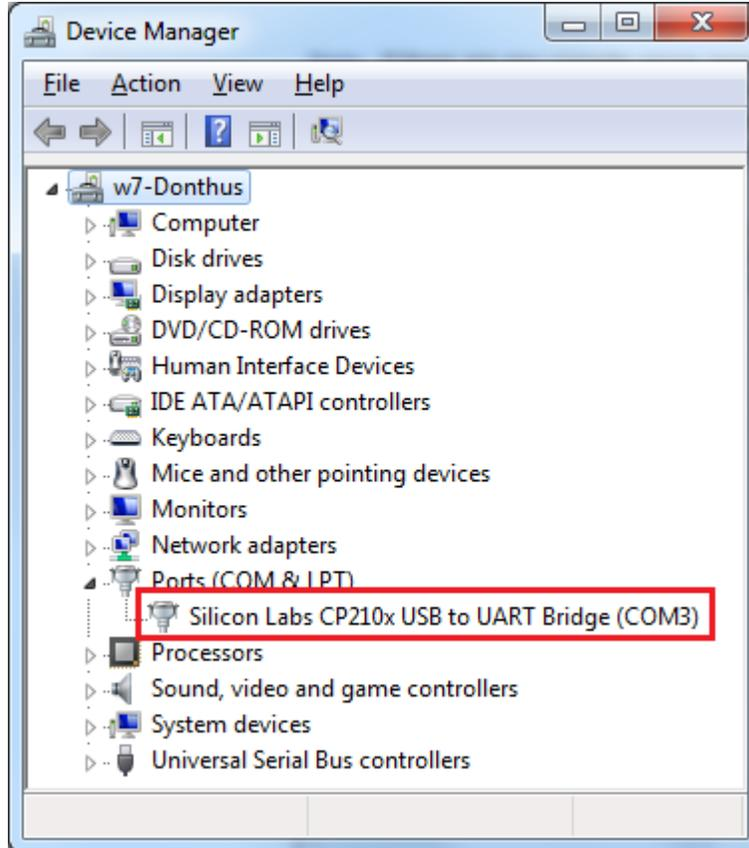

Figure 33 · Device Manager Listing Silicon Labs CP210x USB to UART Bridge Drivers
2. If the Silicon Labs CP210x USB to UART Bridge drivers are automatically detected (this can be verified in Device Manager), as shown in Figure 33, go to the next step. If not, follow Step 8 – Installing Drivers for the USB to RS232 Bridge to install drivers for the USB to RS232 Bridge.